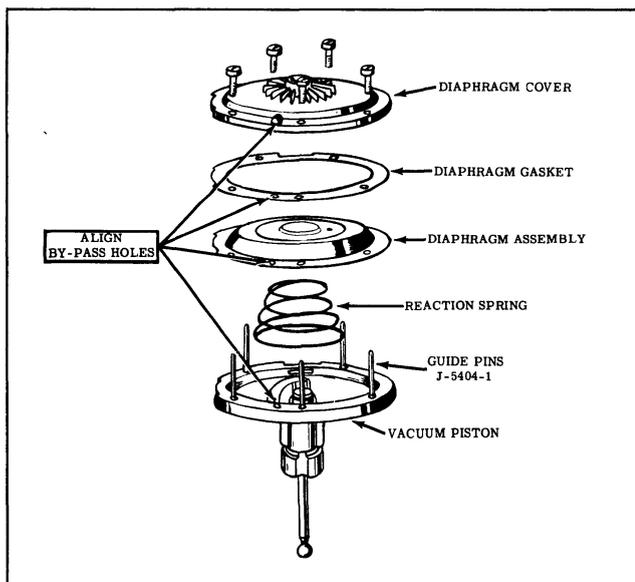

Fig. 7-51 Diaphragm Assembly
7. Place diaphragm, gasket, and cover over guide pins as shown in Fig. 7-51. Center metal ring of diaphragm assembly over small coil of spring. Press down on the cover and install screws by removing one guide pin at a time. Tighten screws evenly.